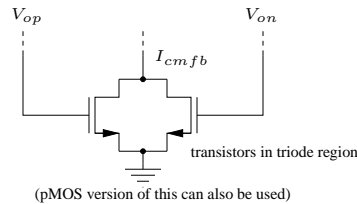

Figure 4: Common mode feedback structure for folded cascode opamp
2. Turn the folded cascode opamp designed in assignment 6 to a fully differential version. Use the circuit in Fig. 4 for common mode feedback. Size the CMFB transistors to have 50 mV across them in quiescent condition. Report the follow-